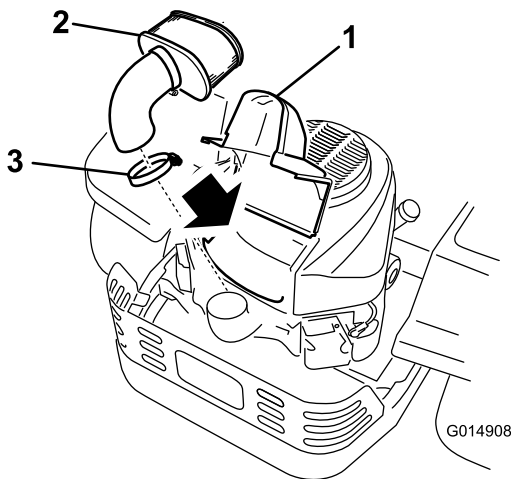

Figure 36
3. Clean around the air cleaner cover to prevent dirt from getting into the engine and causing damage. Lift the cover and remove the hose clamp securing the air cleaner assembly to the engine (Figure 36).
4. Loosen the hose clamp and remove the paper element (Figure 36).